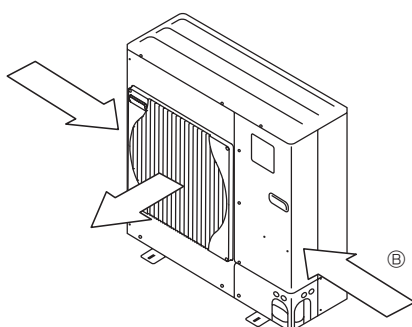

Fig. 3-5
- ③ Position the unit so that the air outlet blows perpendicularly to the seasonal wind direction, if possible. (Fig. 3-5)